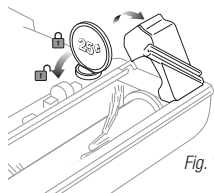

Fig. 13
- 4 Use a coin to remove the trap door if you need to remove the brushroll to either clean it or replace it. (Fig. 13)